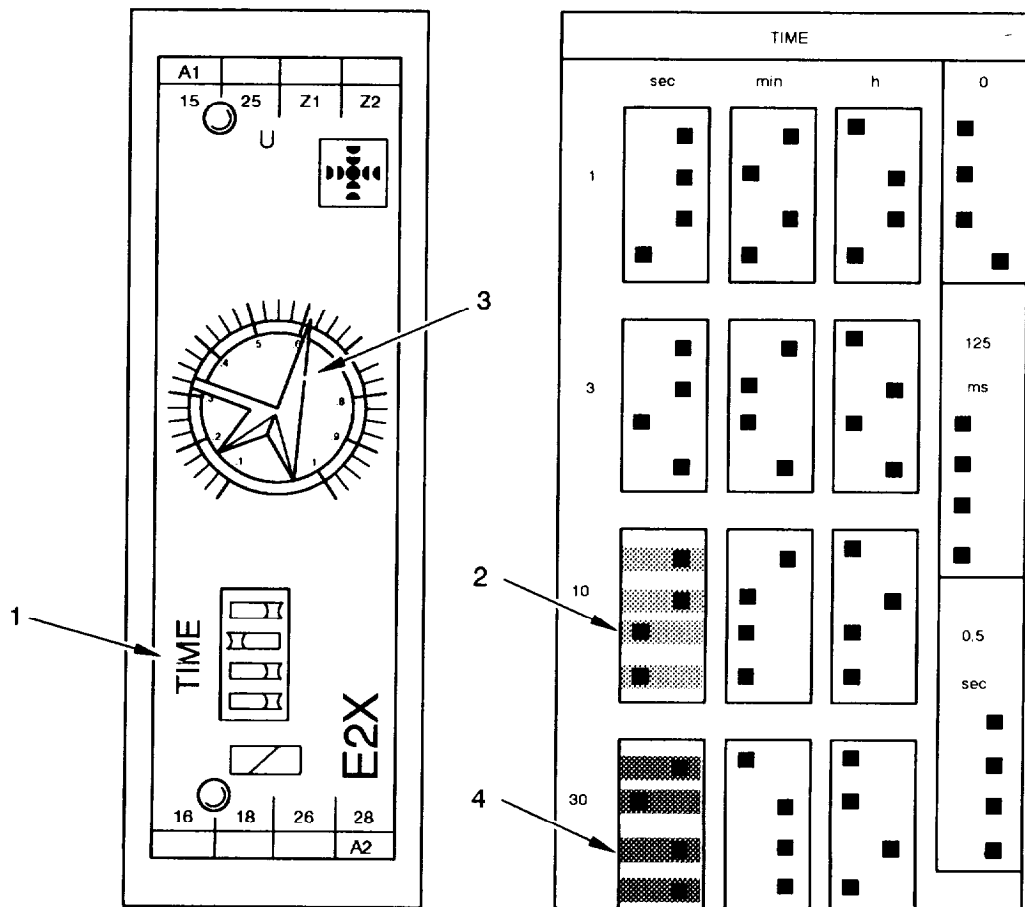

Figure 5-20 Time Relays K3, K10, K13 and K26
1. Set Time relay K26 (19) to a 6-seconds switching time:
- a. On front of time relay K26 (19), use TIME DIP switches (1) to set a 10-seconds time window as indicated in figure 5-20.
- b. On front of Time relay K26 (19) use knob (3) to set a multiplication factor of .6.
2. Set time relay K3 (40) to switching time of 24 seconds:
- a. On front of time relay K3 (40) use TIME DIP switches (1) to set a 30-seconds time window as indicated in figure 5-20.
- b. On front of time relay K3 (5-200) use knob (3) to set a multiplication factor of .8.
3. Set time relay K10 (42) to switching time of 30 seconds:
- a. On front of time relay K10 (5-202) use TIME DIP switches (1) to set a 30-seconds time window as indicated in Figure 5-20.
- b. On front of time relay K10 (42) use knob (3) to set a multiplication factor of 1.
4. Set time relay K13 (43) to switching time of 12 seconds:
- a. On front of time relay K13 (43) use TIME DIP switches (1) to set a 30-seconds time window as indicated in figure 5-20.
- b. On front of time relay K13 (43) use knob (3) to set a multiplication factor of .4.